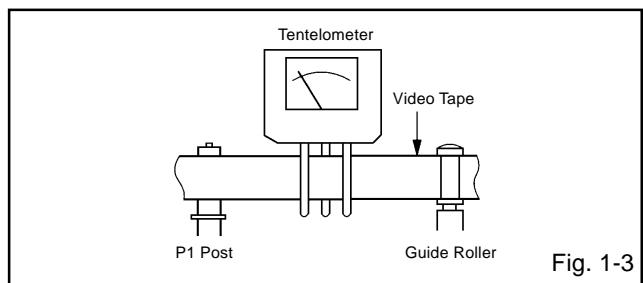

Fig. 1-3
- Install the tentelometer as shown in **Fig. 1-3**. Confirm that the meter indicates 20 ± 2 gf in the beginning of playback.
- After confirmation and adjustment of Tension Post position (**Refer to item 1-2**), load the cassette type torque tape (**JG100A**) and set to the PLAY mode.